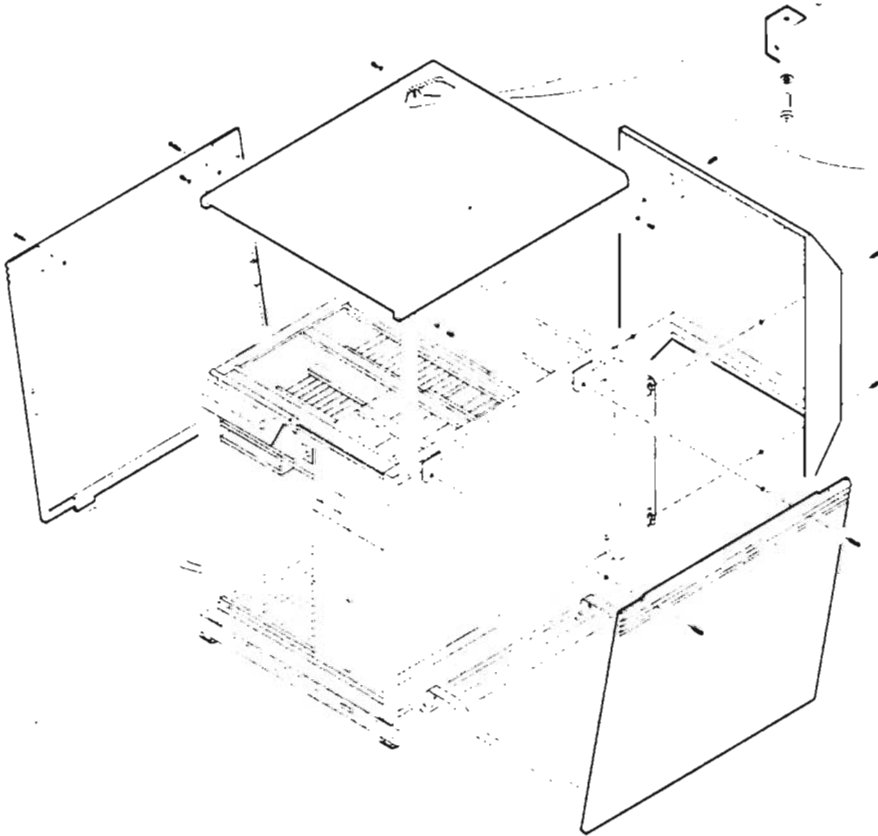

Figure 3. Panels
- Side panels** Turn the two screws on the top of the side panels 1/2 turn counterclockwise and lift the panel away. See figure 3.
- Top panel** Remove the four screws holding the top panel and lift it away. See figure 3.
- Rear panel** Remove the four screws holding the rear panel and lift it away. See figure 3.